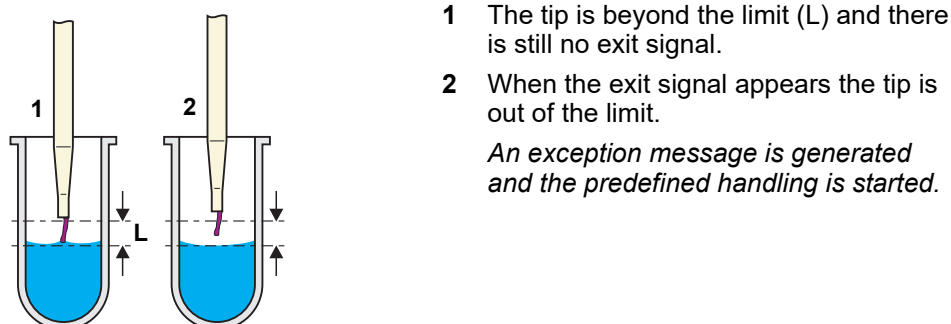

Fig. 3-49 Filament hanging from the tip
- A filament hanging from the tip, causing a risk of contamination of the work area when the tip moves on to dispense the liquid into the destination container (see Fig. 3-49 "Filament hanging from the tip", 3-51).